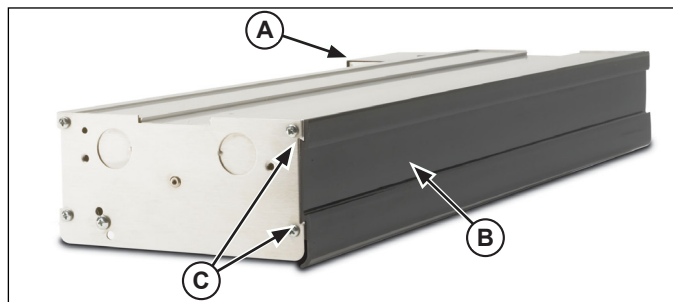

Figure 1. Installation of Kool-Touch® Panels.
1. Beginning on the side that does not have the control box (A), slide the Kool-Touch® (B) panel into position by starting at one end of the unit. Slide the Kool-Touch® panel in the channel (C) on the side of the unit until it is in place. (Ganged units will require two pieces trimmed to fit). See Figure 1.